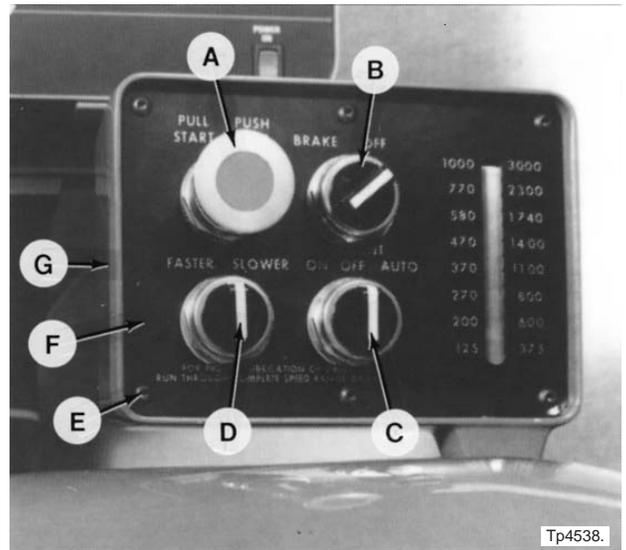
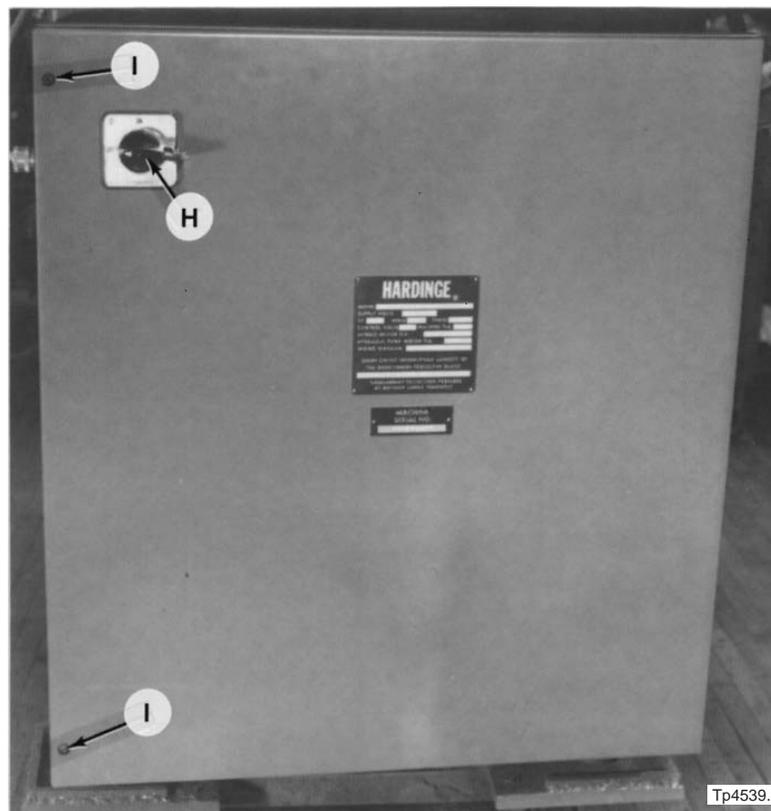

Figure 5.1 - Variable Speed Control Box (HLV®-H Machine)
Figure 5.2 - Power Case (External View)
Be sure disconnect switch "H", Figure 5.2, is turned OFF before opening the power case door.
1. Press "Start/Stop" pushbutton "A", Figure 5.1, or "Start/Stop" pushbutton "G", Figure 5.8, IN to turn the machine OFF.
2. Turn main disconnect switch "H", Figure 5.2, to the OFF position.
**Be sure disconnect switch "H", Figure 5.2, is turned OFF before attempting to service the power feed control panel.**
Switches “D”, Figure 5.1, and “H”, Figure 5.8, control spindle speed. These three-position switches are spring loaded and will return to the center position when released.
Switches “C”, Figure 5.1, and “I”, Figure 5.8, control the coolant.
On HLV®-H machines, lever “J”, Figure 5.9, must be in the “Stop” position before the machine can be turned ON with switch “A”, Figure 5.1 .
When main disconnect switch “H”, Figure 5.2, is turned ON, pushbutton “A”, Figure 5.1, or pushbutton “G”, Figure 5.8, turns the machine ON when pulled OUT and turns the machine OFF when pushed IN.
Selector switch “B”, Figure 5.1, is a two-position switch that enables the spindle brake when set to the “BRAKE” position and disables the spindle brake when set to the “OFF” position.